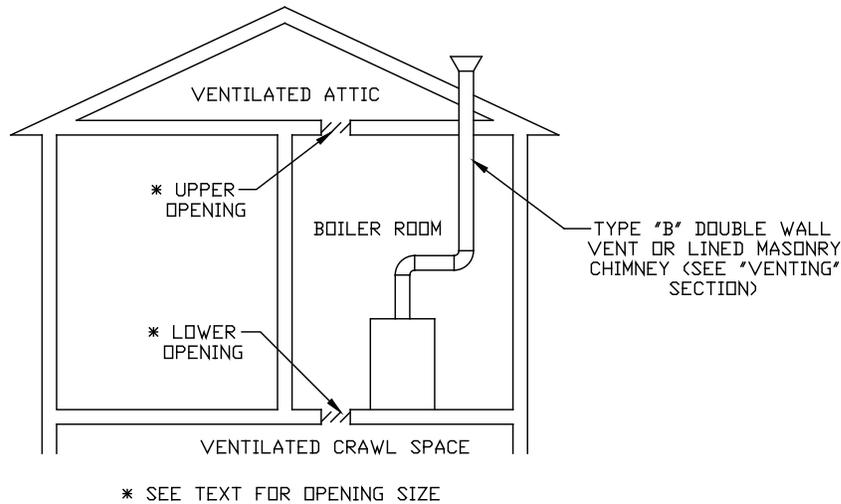
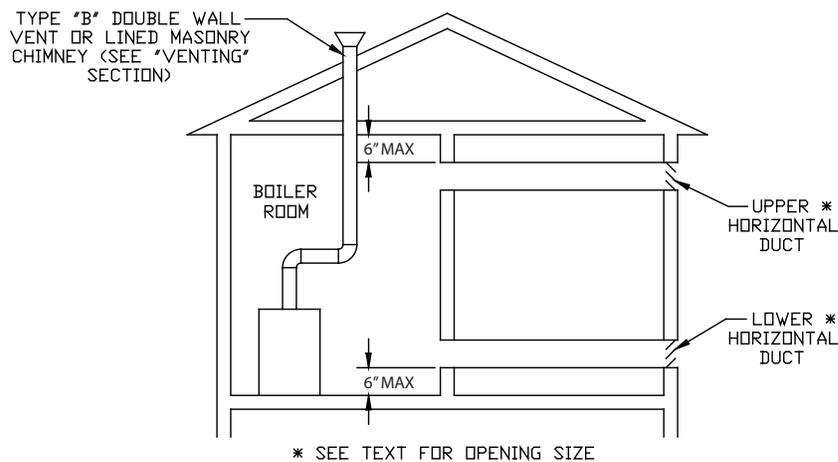
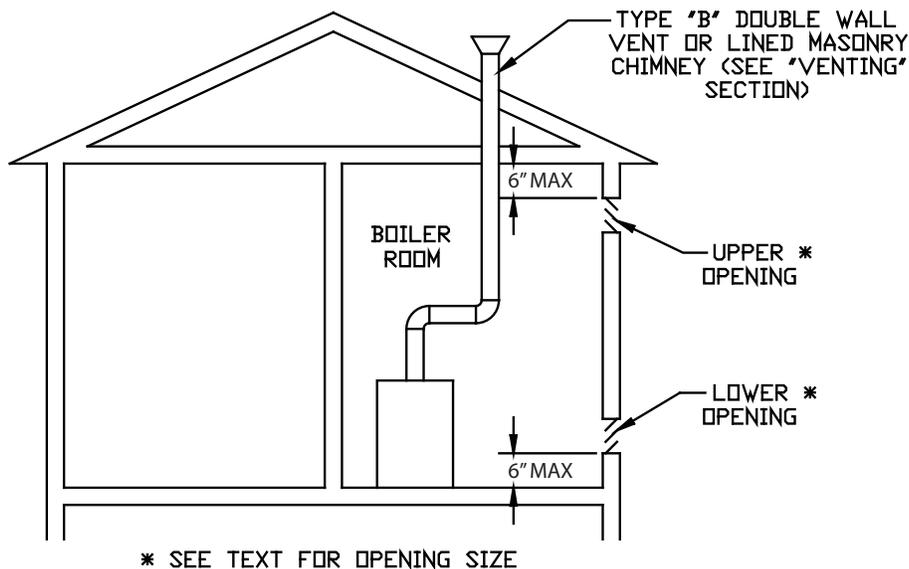

Figure 6-2: All Air From Outdoors, Ventiladed Crawl Space and Attic
Figure 6-3: All Air From Outdoors, Via Ventiladed Attic
Figure 6-4: Outdoor Combustion Air Method: Using Openings into Boiler Room
- A. Vertical ducts or openings directly outdoors (Figure 6-2, Figure 6-3, and Figure 6-4) - Each opening must have a free cross sectional area of 1 square inch per 4,000 BTU/hr. of the total input of all gas-fired appliances in the boiler room. Minimum opening size is 3 inches.